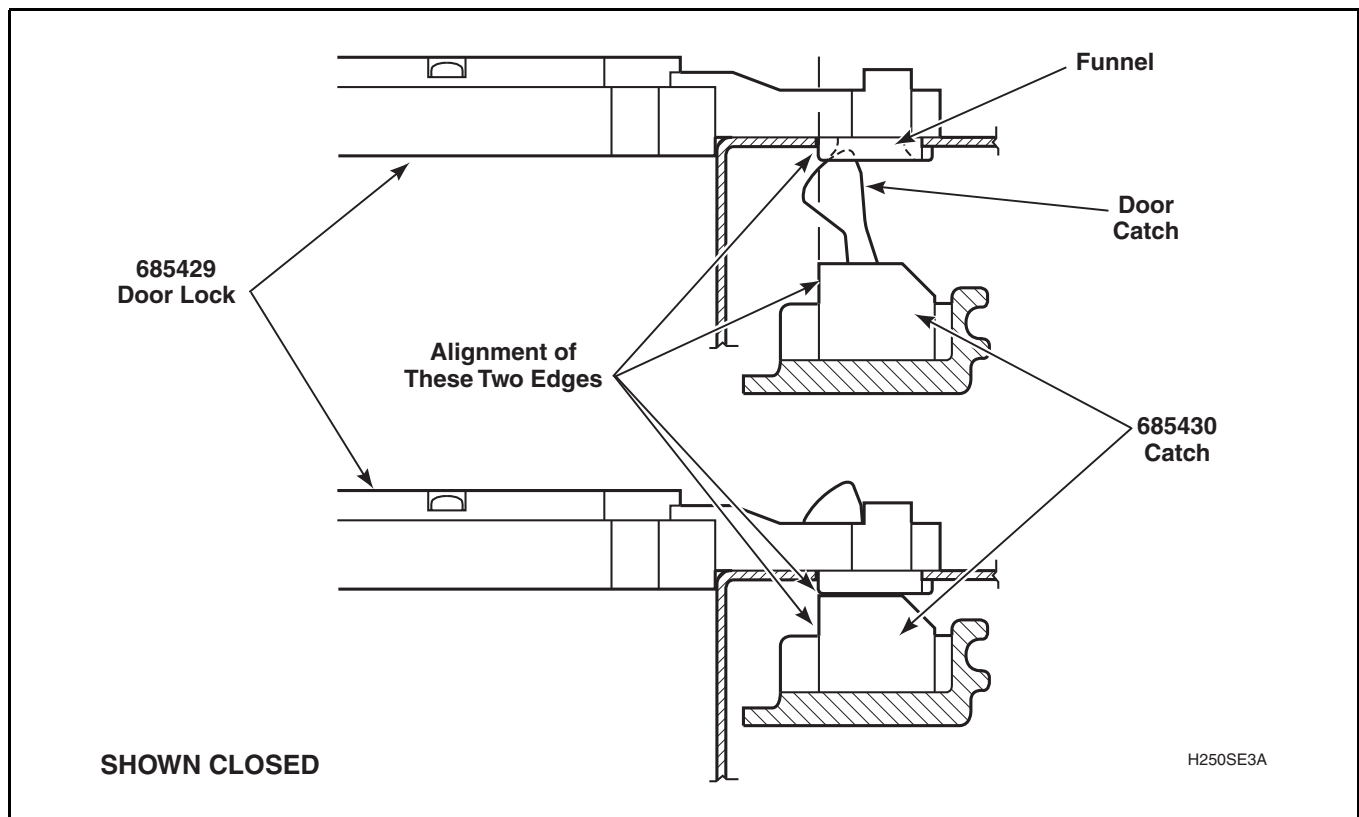

Figure 30
- Adjust door catch so the outside edge is aligned with the edge of the latch. Refer to *Figure 30*.
- Visually check that the door catch properly engages the funnel of the door latch/switch assembly. Refer to *Figure 30*.